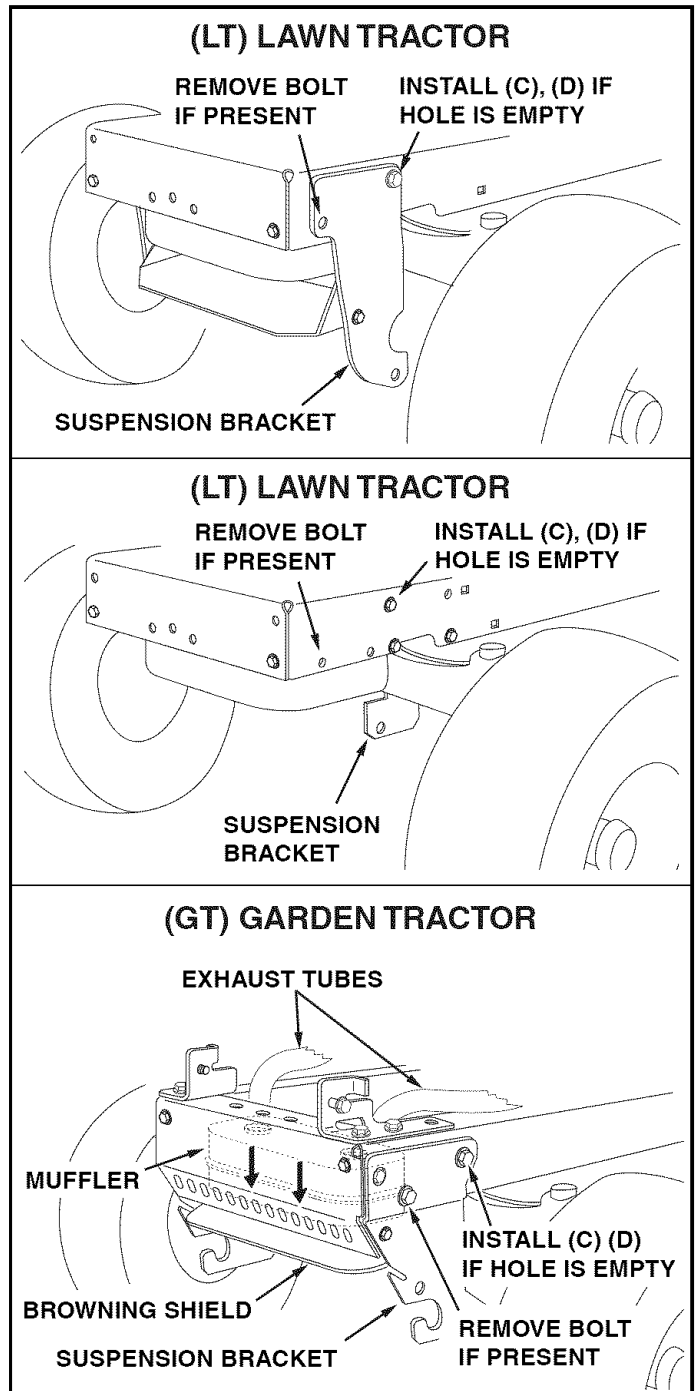

FIGURE 2
STEP 2: (SEE FIGURE 2)
- If **rear** mounting holes in tractor frame are empty, install hex bolts (C) and hex nuts (D) supplied in parts bag. See figure 2.